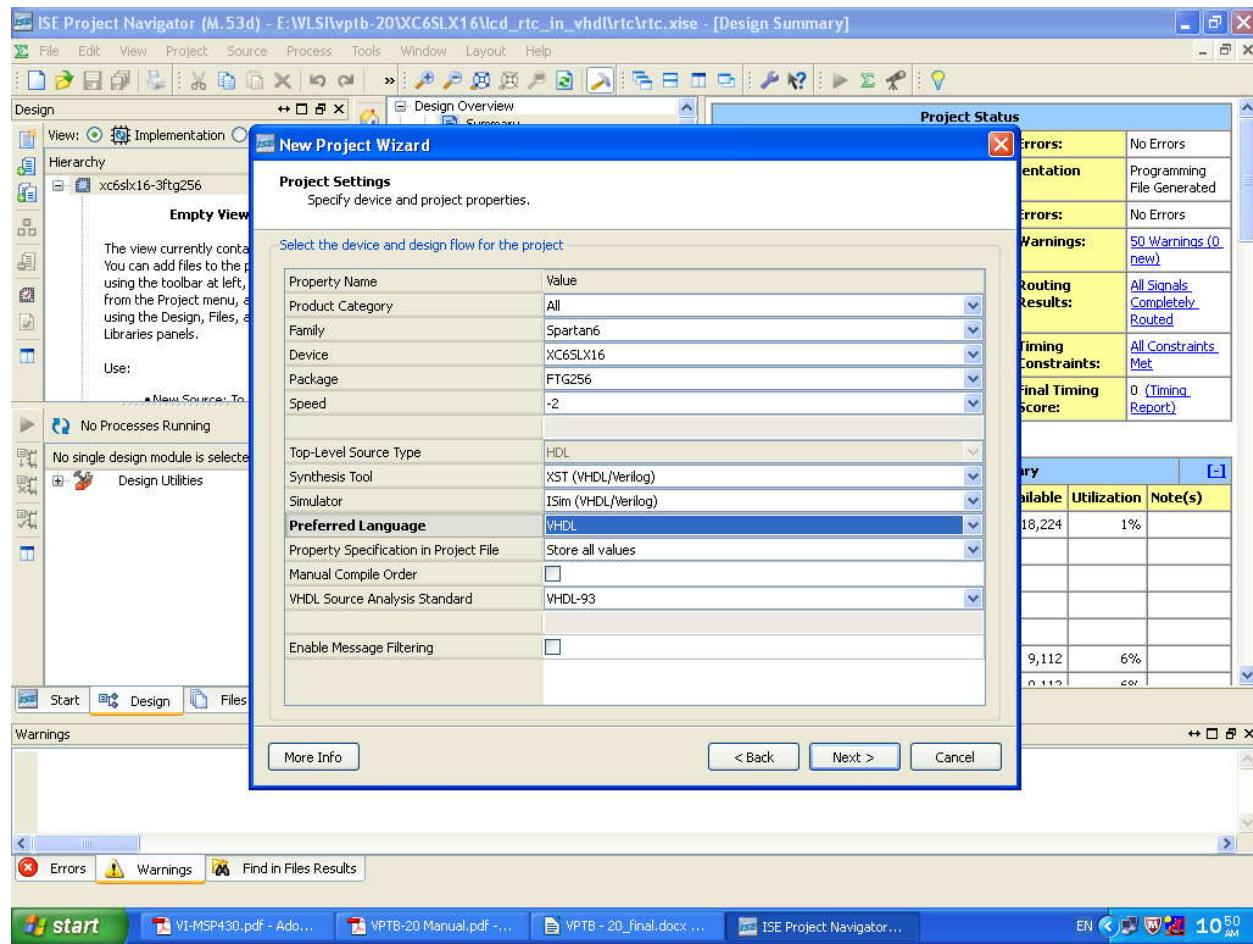

Figure-6
4. A window given in **Figure-6** will appear.
Then click "Next" and "Finish" (refer **Figure-6, 7**).